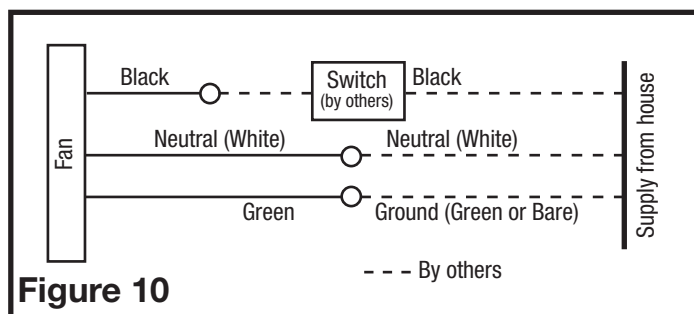

Figure 10
- 4b. From where you have chosen to access the fan's junction box, connect the white wire from the house to the white wire from the fan's receptacle. Connect the black wire from the wall switch to the black wire from the fan's receptacle. Connect the ground wire from the house to the green wire from the fan housing (**Figure 10**). Use approved methods for all connections.